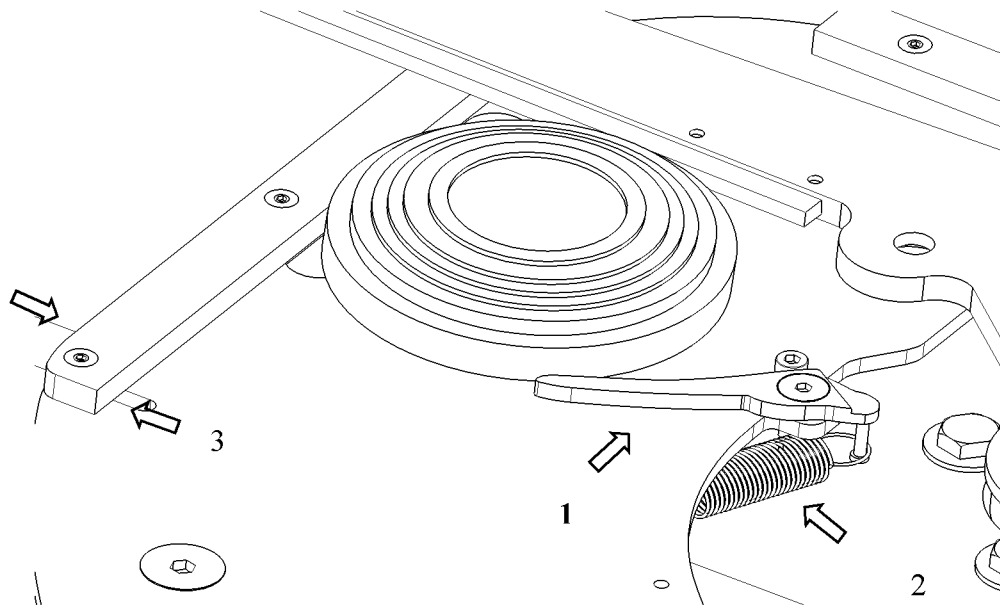

Fig. 16
In case of breakages of the target during the throwing, to be sure that the component that put near the target (1) places correctly the target such as seen in figure 16. In the case all that does not happen, to verify the integrity of throwing spring (2). Acting on the list (3) it is possible to adjust the exit position of the targets from the machine runway so that it is in the middle respect the same runway.
The targets result broken DURING the launch	<ul style="list-style-type: none"> • The throwing spring is regulated for a launch more than 80 meters ; • The rubber list is damaged ; • The target is not near to the rubber list by means of the targets leaning (fig 16) • Throwing ramp is regulated in a wrong way.